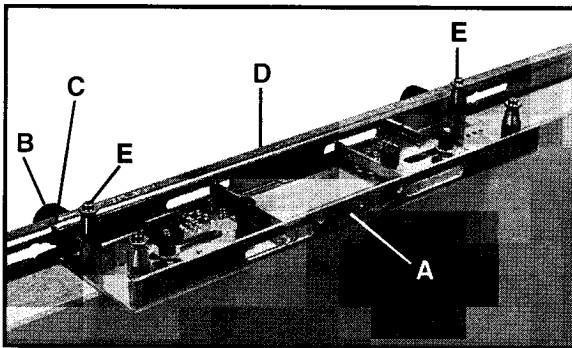
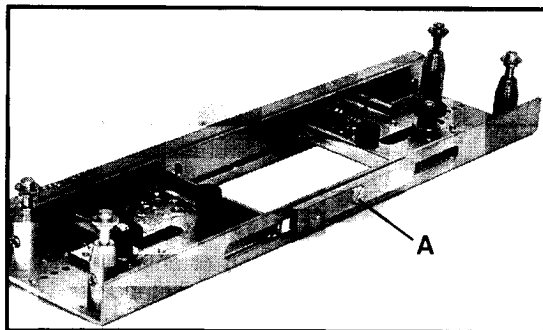
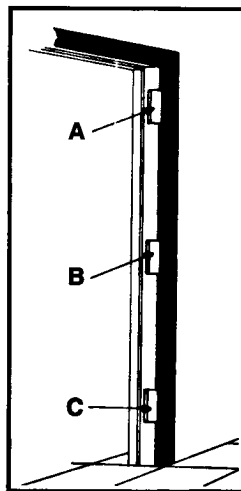

Fig. 5
Fig. 11
Fig. 12
5. **See Fig. 5.** Attach center templet (A) with thumb screw (B) to adjusting channel just installed in Step 4. Adjust channel so the 6'8" graduation line (C) aligns with the end of templet section. Securely tighten thumb screw (B) being sure plunger within screw locates in recess in adjusting channel to prevent movement.
**NOTE:** Recesses are provided for 6', 6'6", 6'8" and 7' doors. When mortising other size doors, the plunger within thumb screw (B) retracts. Care should be taken not to jar adjusting channel out of adjustment.
2. Select correct jamb gage for size of hinge to be used and assemble to each templet section (A) Fig. 11.
3. Place end templet section to top of jamb placing jamb gage (A) Fig. 11, in metal or previously mortised jamb butt (A) Fig. 12.
5. Keeping top templet section jamb gage mated with butt (A) Fig. 12, loosen thumb screw (B) Fig. 5, and adjust templet so that the jamb gage on the center templet section mates with butt (B) Fig. 12. Tighten thumb screws securely.
6. Keeping jamb gages mated with butts (A) and (B) Fig. 12, adjust lower templet section so that its jamb gage mates with butt (C).
7. Transfer complete adjusted templet to door, being careful not to jar it out of adjustment. Align  $\frac{1}{16}$ " or  $\frac{1}{8}$ " step in top end gage with top of door and drive nails into door keeping guide channels (D) Fig. 5, snug against door.